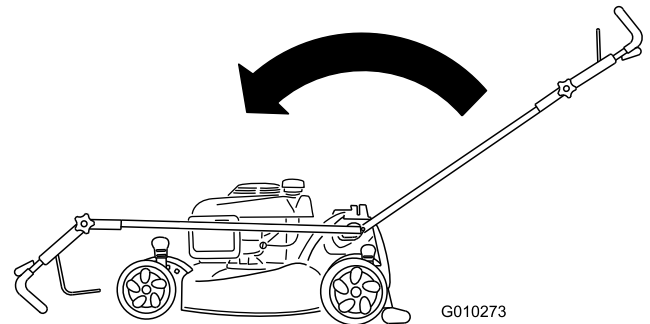

Figure 57
2. Move the handle all the way forward and loosen the upper handle knob (Figure 57).